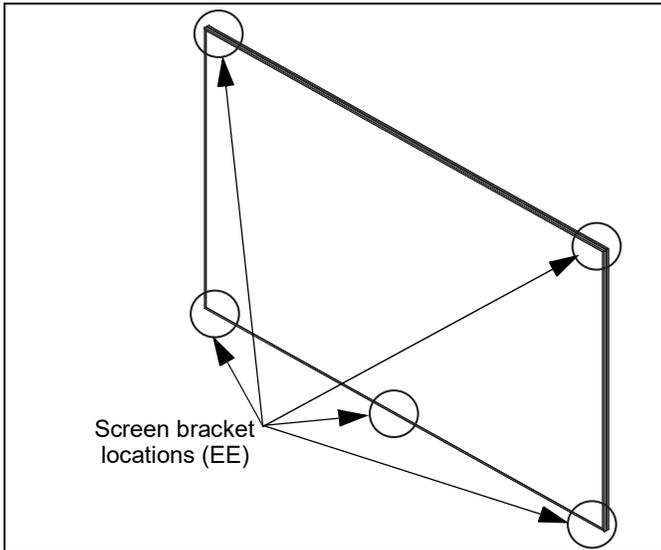

Figure 24
**IMPORTANT ! :** Be sure to install all 5 screen brackets (EE) to ensure rigidity of the installation.
**NOTE:** After image alignment use 3 screen brackets (EE) along bottom of screen, and locate brackets as close to outer corners as possible. Remaining two brackets are used along top of screen. (See Figure 24)